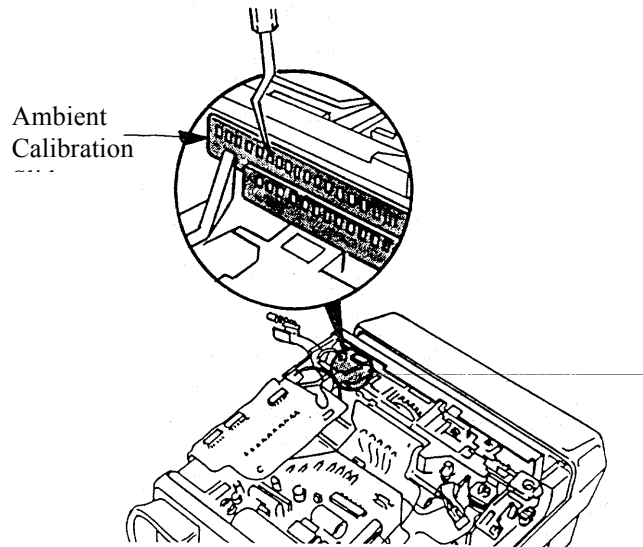

Figure 3-11 Adjusting Ambient (visible light) Calibration Slide
2. If the Ambient Exposure Test readings are too low, use a dental pick and slide the Ambient Calibration Slide to the right (see Figure 3-11) in proportion to the amount the reading is too low. The Ambient Calibration Slide is the one next to the Shutter Base Block (rearmost Slide, when Base Block is viewed from the rear of the camera).